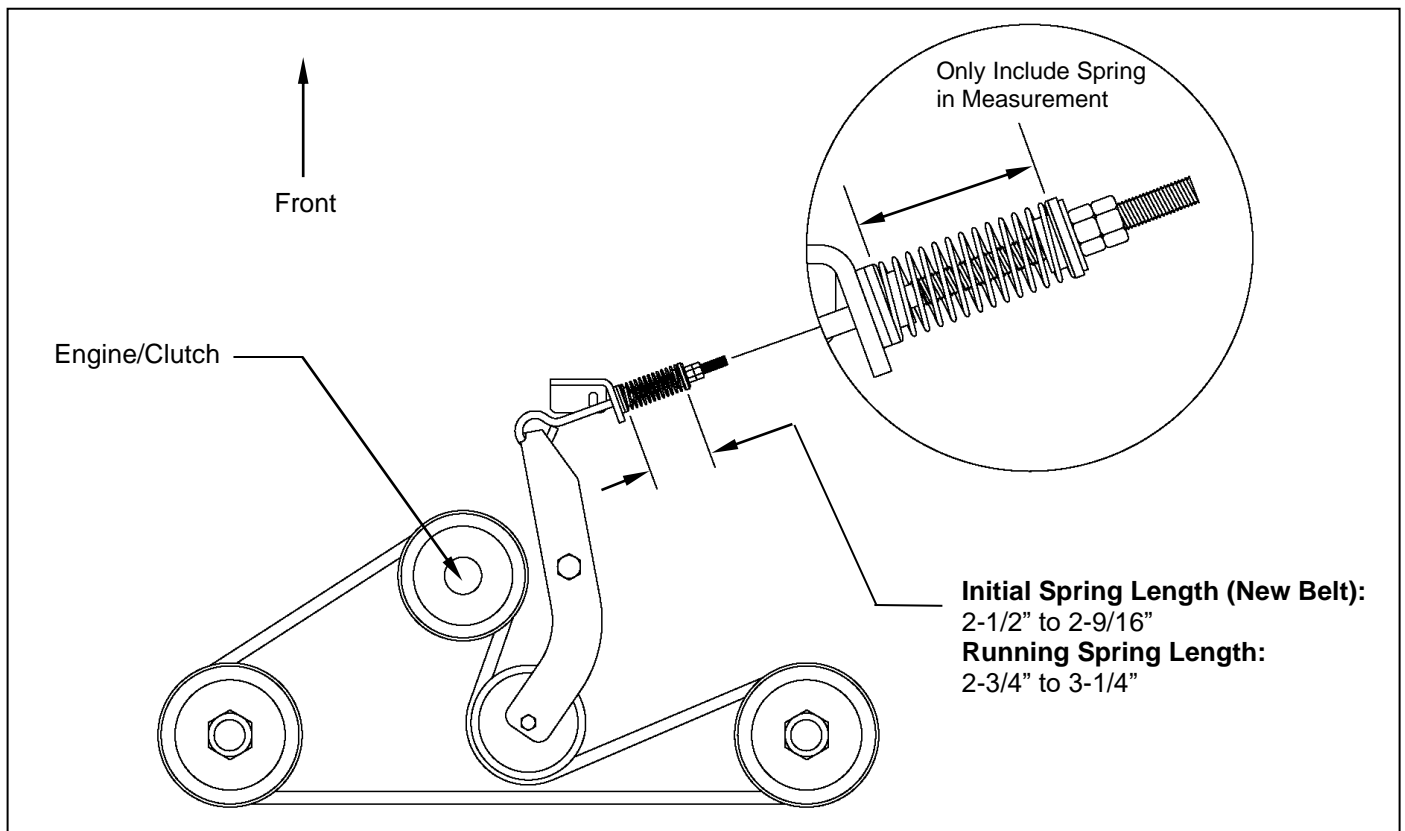

Figure 10: Belt Pattern, Spring Adjustment, and Brake Adjustment
**F. DRIVE BELT REMOVAL AND TENSION – Refer to Figure 10**
Install the new belt and then adjust the tension as follows: **See Figure 10.**